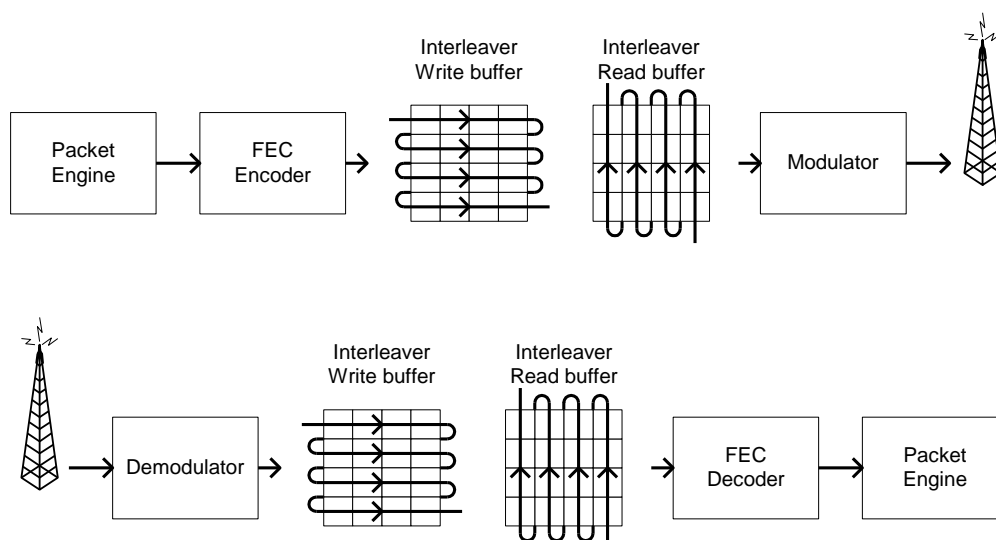

Figure 24: General Principle of Matrix Interleaving
**CC1101** employs matrix interleaving, which is illustrated in Figure 24. The on-chip interleaving and de-interleaving buffers are 4 x 4 matrices. In the transmitter, the data bits from the rate 1/2 convolutional coder are written into the rows of the matrix, whereas the bit sequence to be transmitted is read from the columns of the matrix. Conversely, in the receiver, the received symbols are written into the rows of the matrix, whereas the data